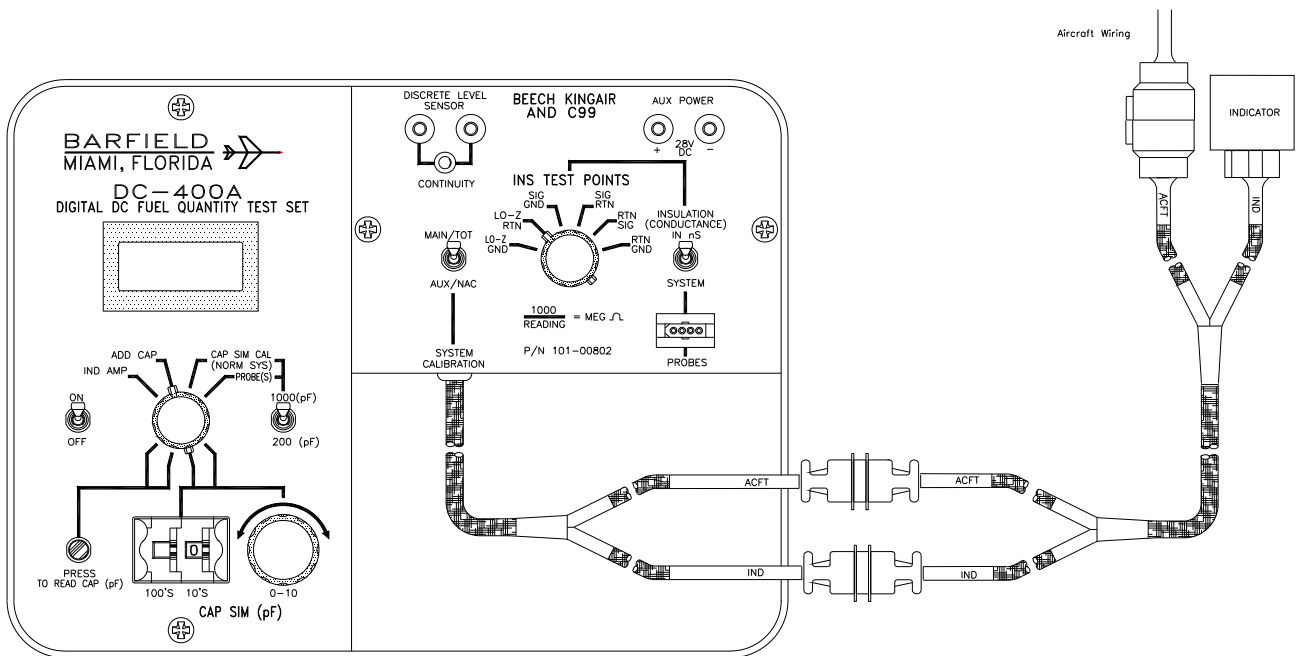
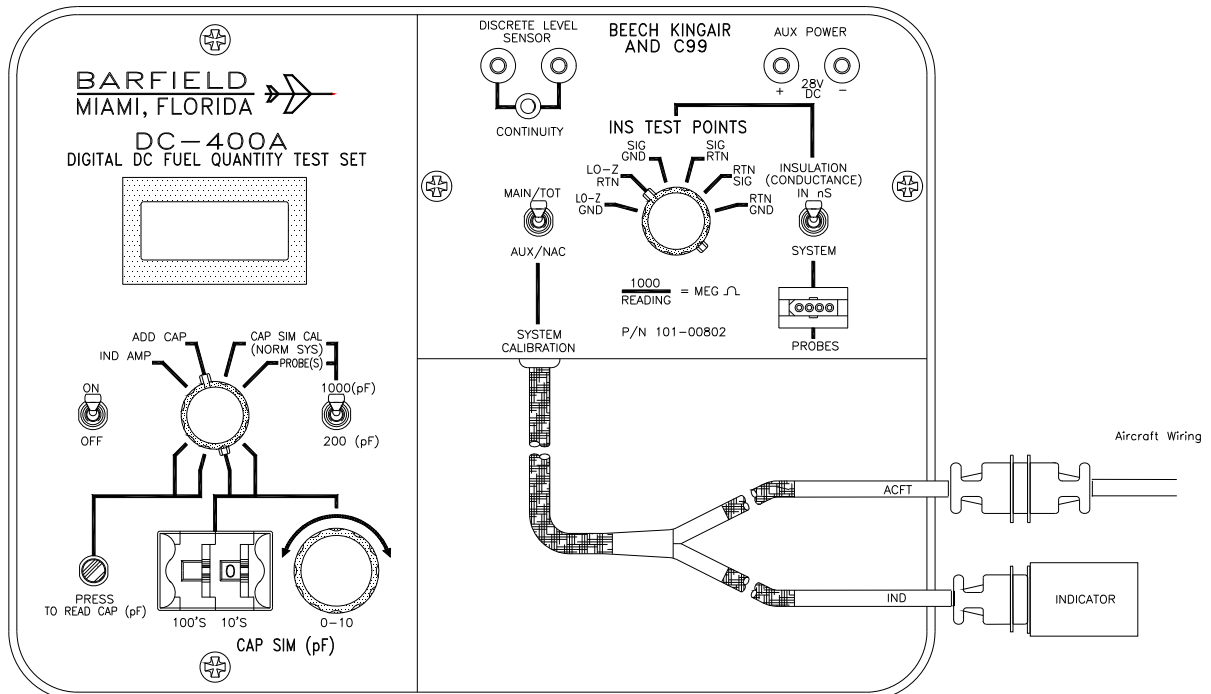

Figure 15 Alternate Calibration Test Set Setup
Figure 16 Alternate Calibration Test Set Setup
(1) Determine the number of pins on the indicator connector and connect the test set as shown in Figure 15 or Figure 16 accordingly.